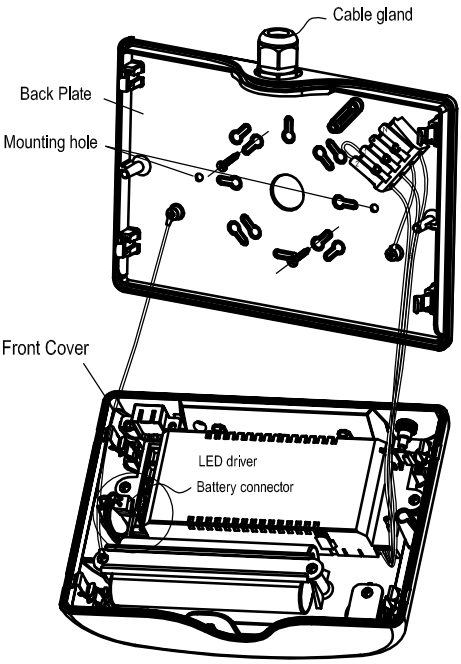

Fig. 3
2. Remove hole plug from top of unit, replace with NPT 1/2" cable gland for top power feed(see Fig 3).